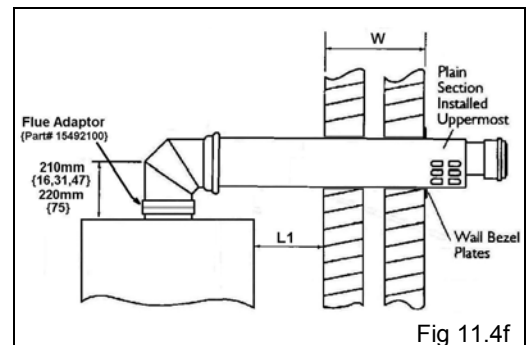

Fig 11.4f
- 11) Lubricate the male ends of the concentric bend with silicone grease. Locate concentric tubes into bend and gently push fully home. Ensure that the plain section of the external part of the air inlet tube is located uppermost. See fig 11.4f.
- 12) Fix external wall bezel plate with fixings provided. See fig 11.4f.